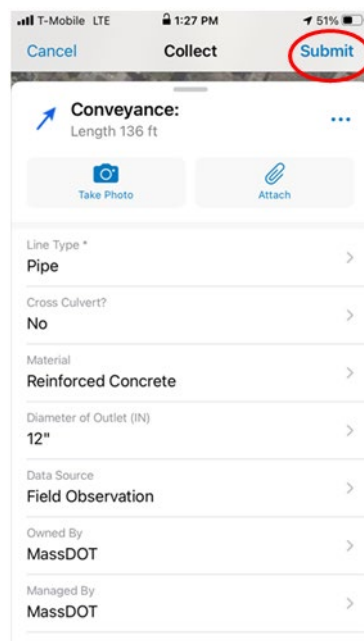

Figure 54
5. Be sure to save the new feature by clicking “Submit” when finished (Figure 54).